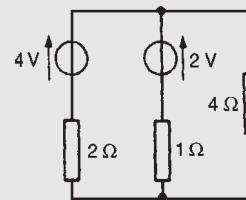

Figure 13.56
**Problem 14.** Use Norton's theorem to determine the current  $I$  flowing in the  $4\ \Omega$  resistance shown in Fig. 13.56
- (iv) From the Norton equivalent network shown in Fig. 13.56(b) the current in the 4 Ω resistance is given by: